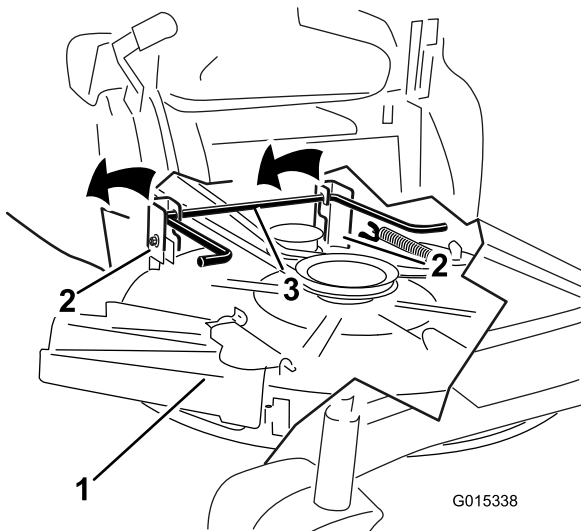

Figure 53
- Lift the mower deck and hanger brackets clear of the rear lift rod, and lower the mower carefully to the ground (Figure 53).
- Lift the rear of the mower deck and guide the hanger brackets over the rear lift rod (Figure 53).